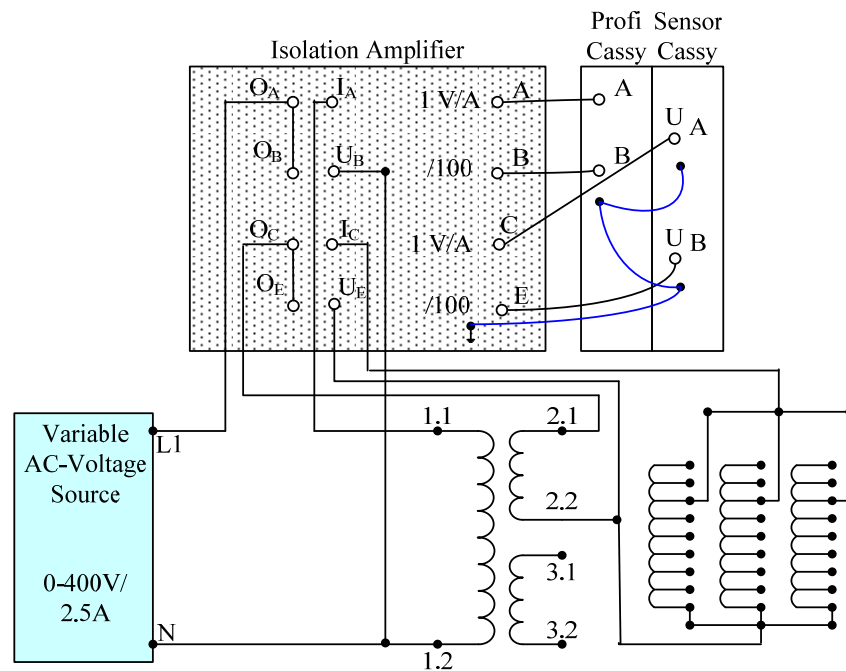

Figure 2 Circuit for investigating voltage behavior with inductive load
1. Replace the resistive load with an inductive load and change the circuit to match Fig. 2. Here too, the inductive load elements are to be connected in parallel to increase current handling capability.